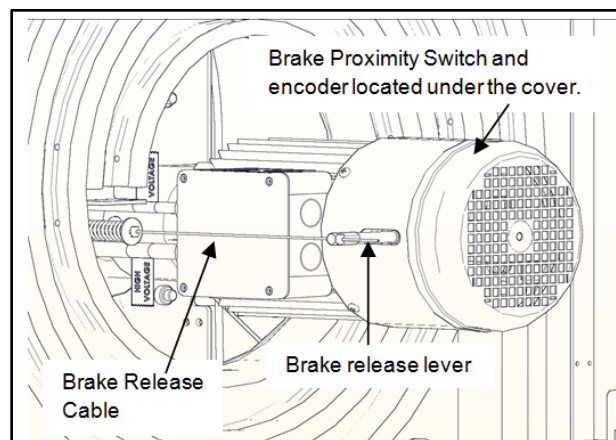

Figure 33
4. Inspect the entire length of the brake release cable running from the brake release handle to the elec-tric brake mechanism located on the drive motor assembly. The cable should not be frayed, worn, or damaged. Replace if necessary. (See Figure 33.)
6. Inspect the cable clamp on the lower end of the cable to ensure it is securely fastened to the brake release handle. (See Figure 33.)